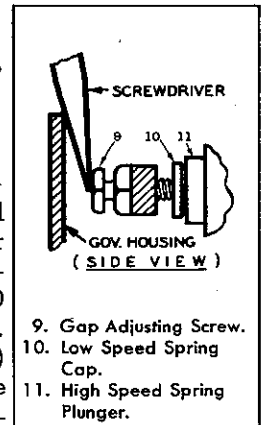

Fig. 24—Setting Gap.
5. Keep the engine running between 700 and 1000 R.P.M. and set the gap adjusting screw (9) so that the gap between the low speed spring cap (10) and the high speed spring plunger (11) is only .001 to .002". This may be measured with a .0015" or .002" feeler gauge (12) inserted between cap (10) and plunger (11). If no feeler gauge is available, this setting may be checked with a screw driver inserted between the governor housing and gap adjusting screw (9), and using it as a lever. (See Fig. 24.)